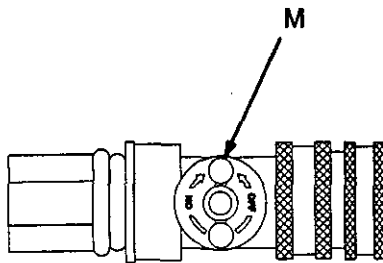

Fig. 10
5. The Air Control Valve (M) on the end of the turbine hose controls both the atomizing air and the pressure in the spray gun cup (if used). See Fig. 10. Adjust the air control valve as needed.